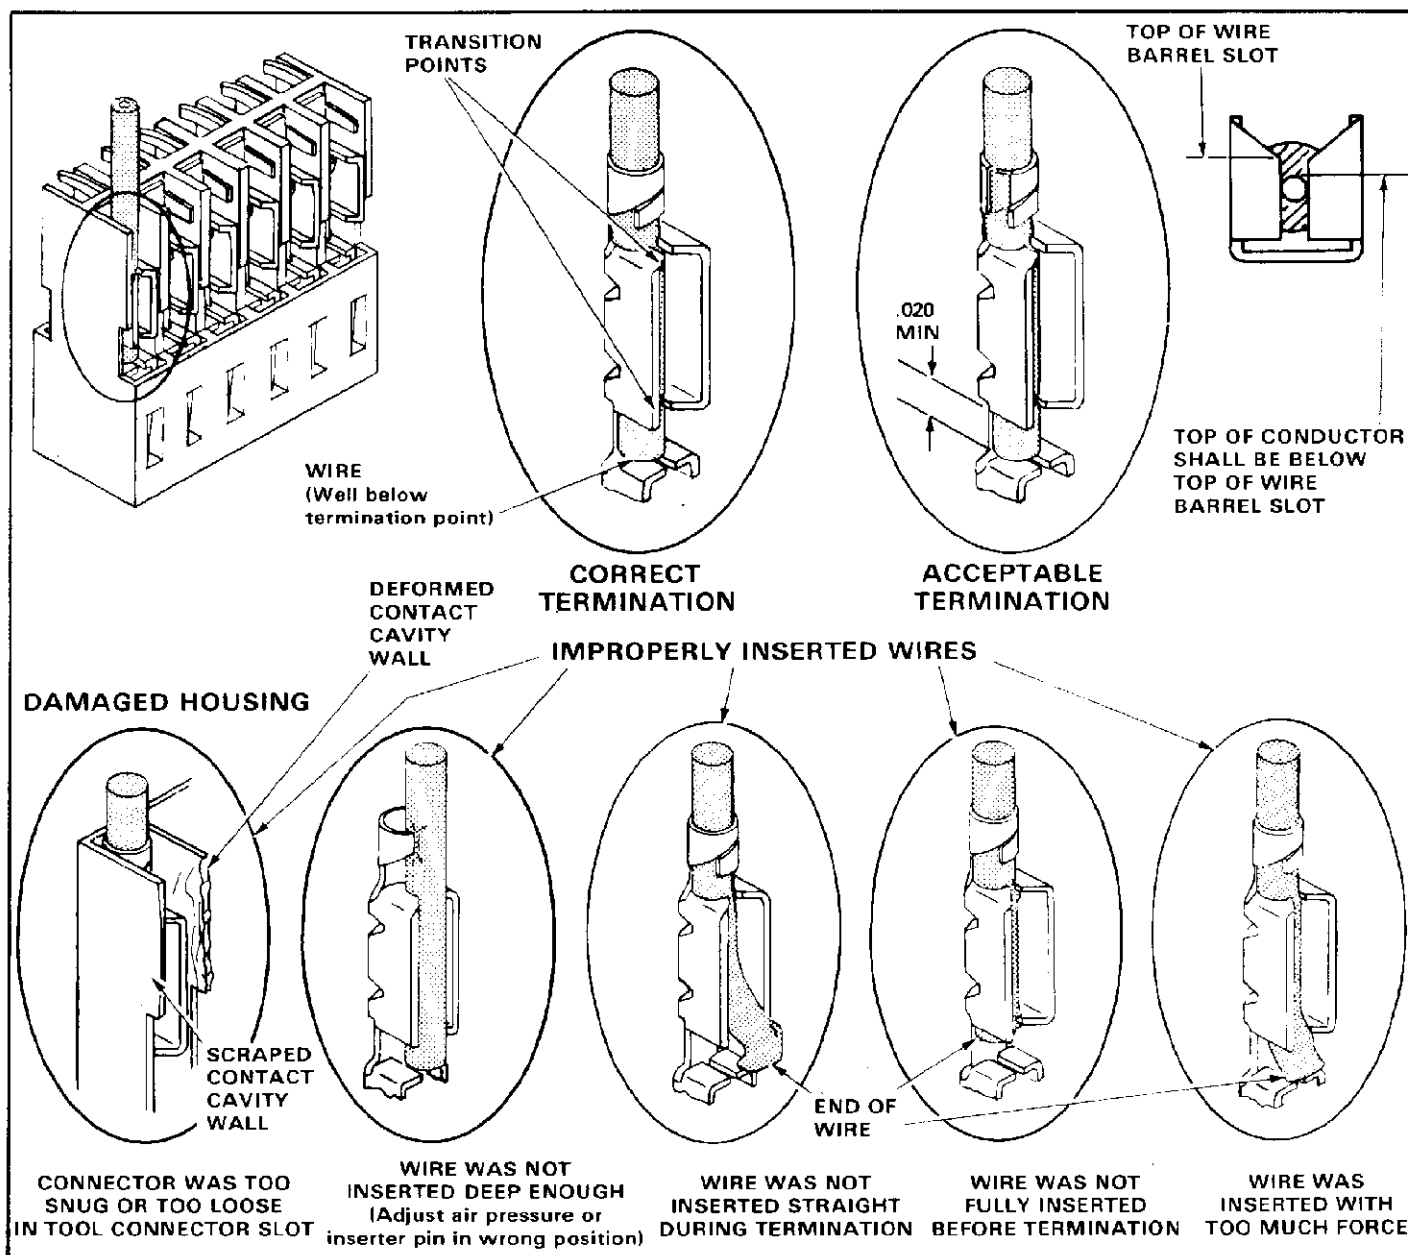

Fig. 3
2. Make sure that the wire extends beyond the front contact slot. See the minimum dimension in Figure 3.
Improper terminations shown in Figure 3 can be corrected by the operator of the tool. Review the termination procedures (Paragraph 3) and make adjustments (Paragraph 5).
Figure 3 shows properly and improperly terminated contacts. Each view gives a brief description concerning the termination.